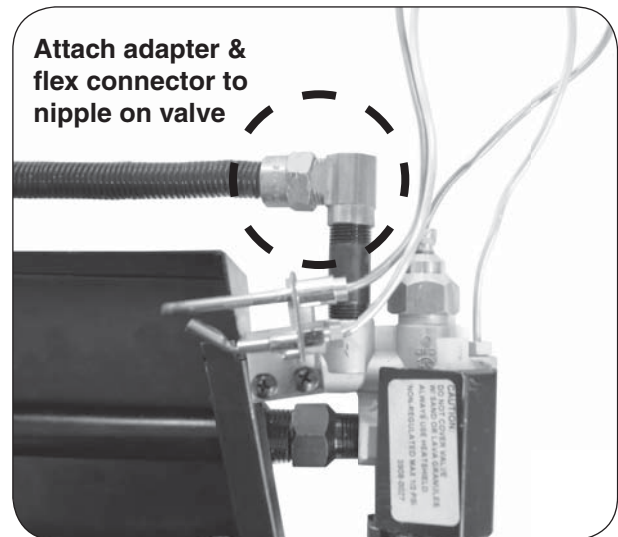

Fig. 9-1 Install flex connector to valve
3. Attach the small adapter (included with burner flex connector kit) to the gas nipple on the control valve using a pipe compound resistant to all gasses. Tighten securely. Then attach one end of the connector to the small adapter. Tighten securely. See Fig. 9-1.